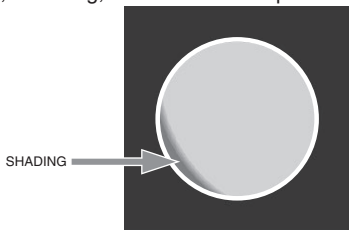

FIGURE 3-1. SHADING
(1) Shading. If shading is present, you will not see a fully circular image (see Figure 3.1). Shading is very dark and you cannot see an image through it. Shading always begins on the edge and migrates inward eventually across the entire image area. Shading is a high contrast area with a distinct line of demarcation. Return the NVFS to the maintainer.